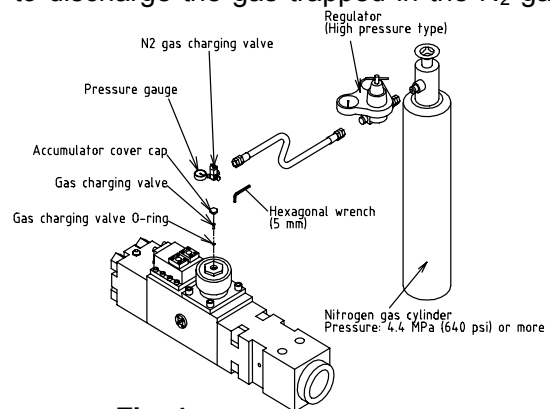
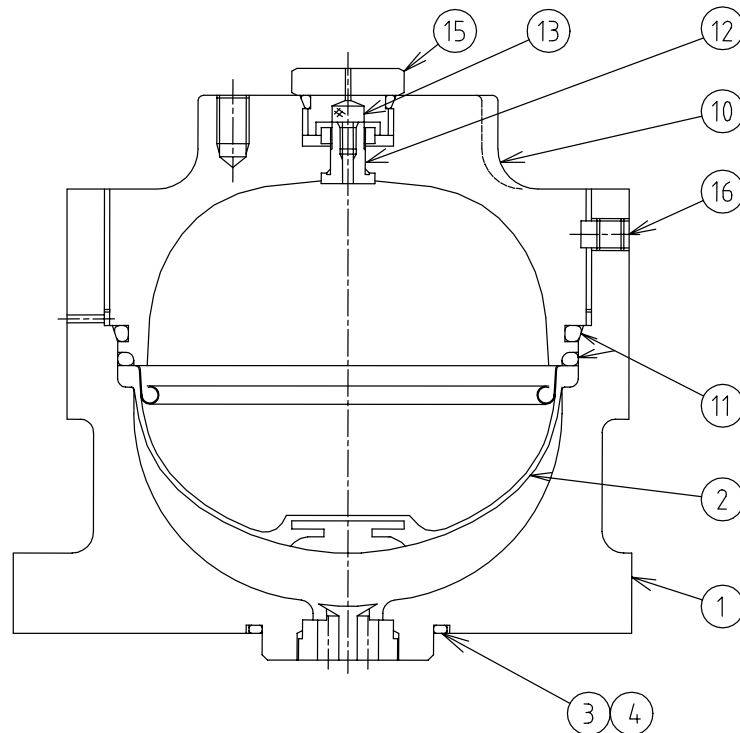

Fig. 1
Fig. 3
- 1) Clean the accumulator thoroughly. Remove the cover cap (No.14 in Fig.3) using spanner. Slightly loose the gas charging valve. Then screw down the N₂ gas charging valve (Fig.1) in order to release the pressure in the accumulator.